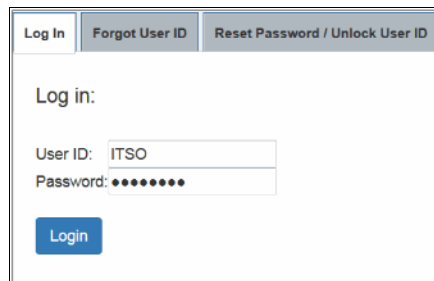

Figure 8-20 Blue Diamond FTP Log in page
2. Log into our secure FTP server, using your Blue Diamond credentials, as shown in Figure 8-20.